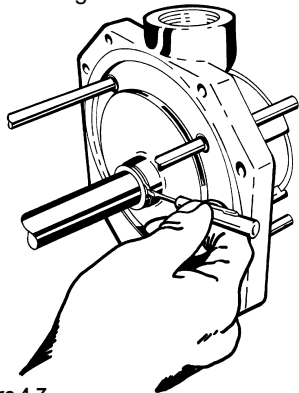

Figure 4-7
will aid in removal. Refer to Figure 4-7.
- a. Remove the snap ring (#14A) at the impeller hub. A small pocket screwdriver will aid in removal. Refer to Figure 4-7.